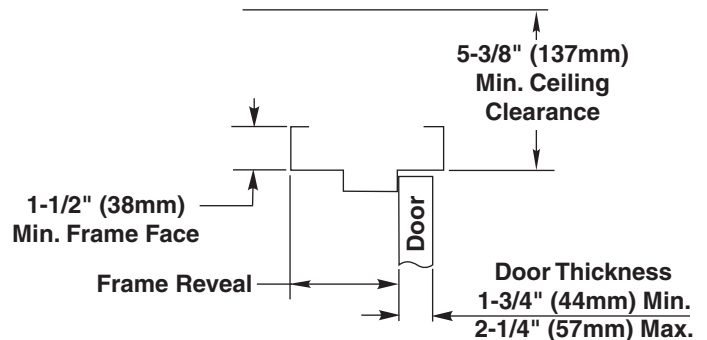

Figure 1
Become familiar with operator components and fasteners. It is recommended that components remain in box until installed. Verify there is minimum ceiling clearance for operator installation before proceeding. (Figure 1)
1. Verify frame reveal width is 2-5/8" - 6-3/4" (67mm - 171mm). (Figure 1)